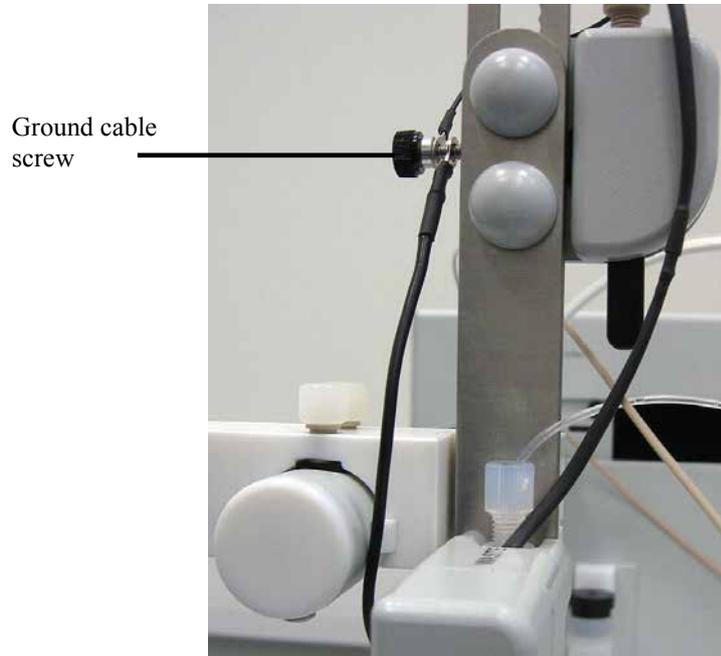

Fig. 26: Normal-phase ground strip
5. Remove the ground cable screw and reinstall with the normal-phase grounding cable attached. Make sure to lead cable along the front side of the diverter valve assembly (→ Fig. 26).